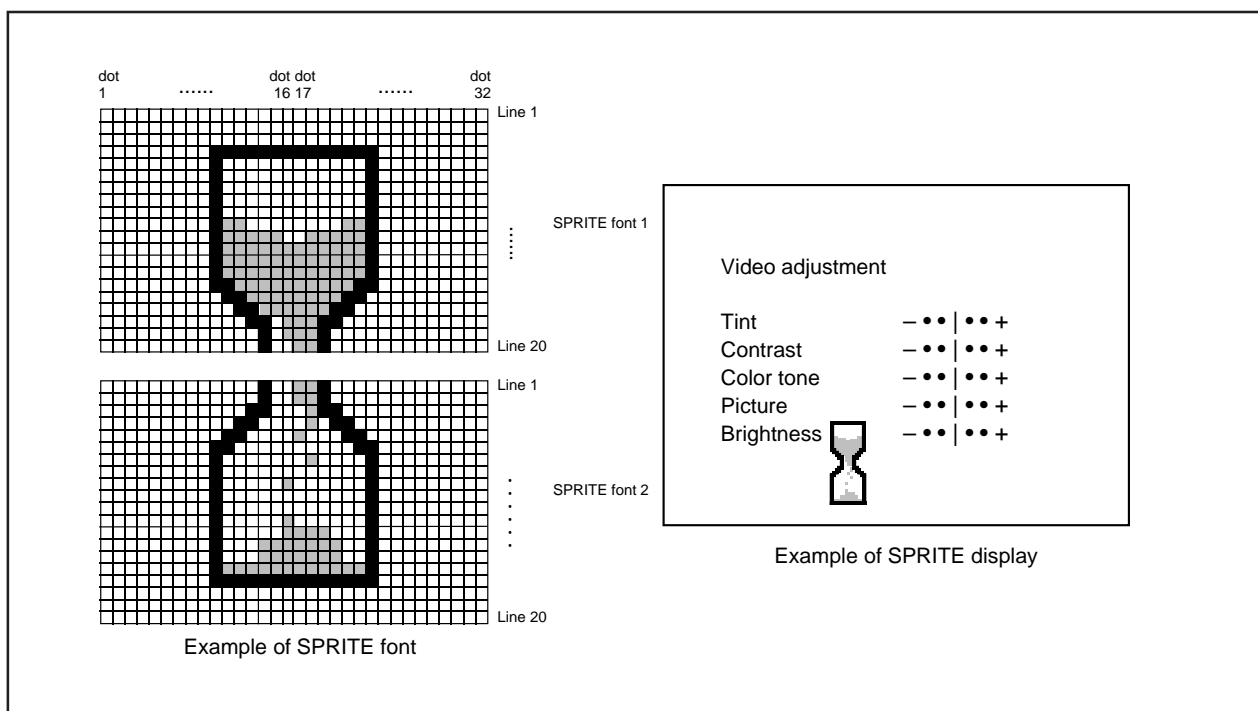

Figure 2.16.41 SPRITE OSD display example
**Notes 1:** An OSD1 interrupt does not occur at the end of display when the block is not displayed. In other words, if a block is set to off display by the display control bit of the block control register i (addresses 021016 to 021F16), an OSD1 interrupt request does not occur (refer to Figure 2.16.41 (A)).